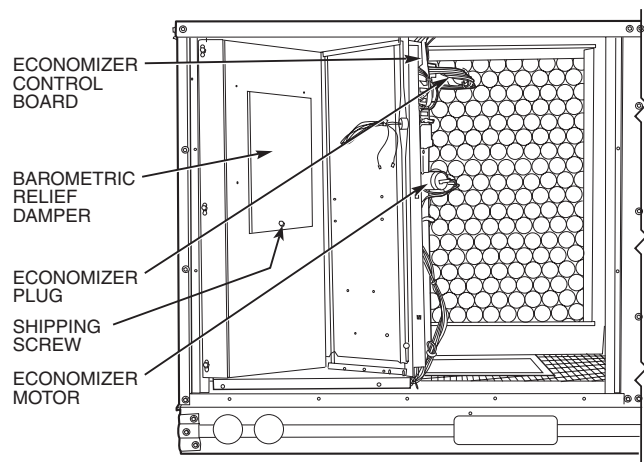

Fig. 12 — Horizontal Durablade Economizer Installation
- a. Rotate the economizer 90 degrees until the economizer motor faces the condenser section (see Fig. 12).
6. Insert economizer plug into economizer harness. Remove tape from barometric relief damper. See Fig. 14. Remove shipping screw (see Fig. 12).